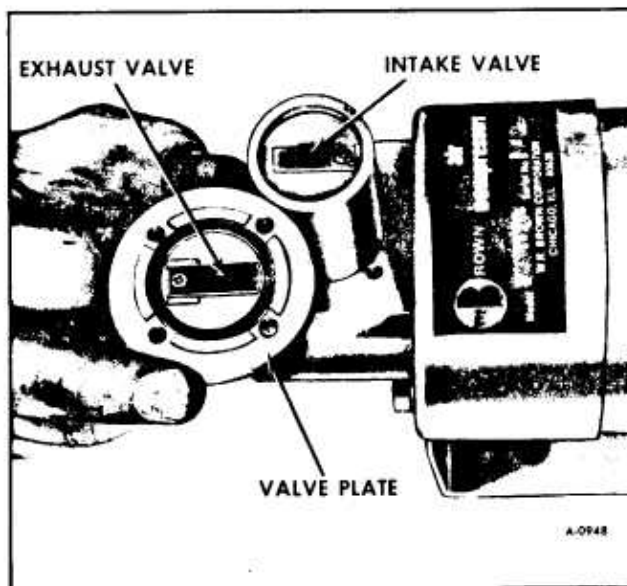

Figure 26-Removing Retaining Screw From Exhaust Valve
3. Remove retaining screw from exhaust valve and remove valve as shown in Figure 26.